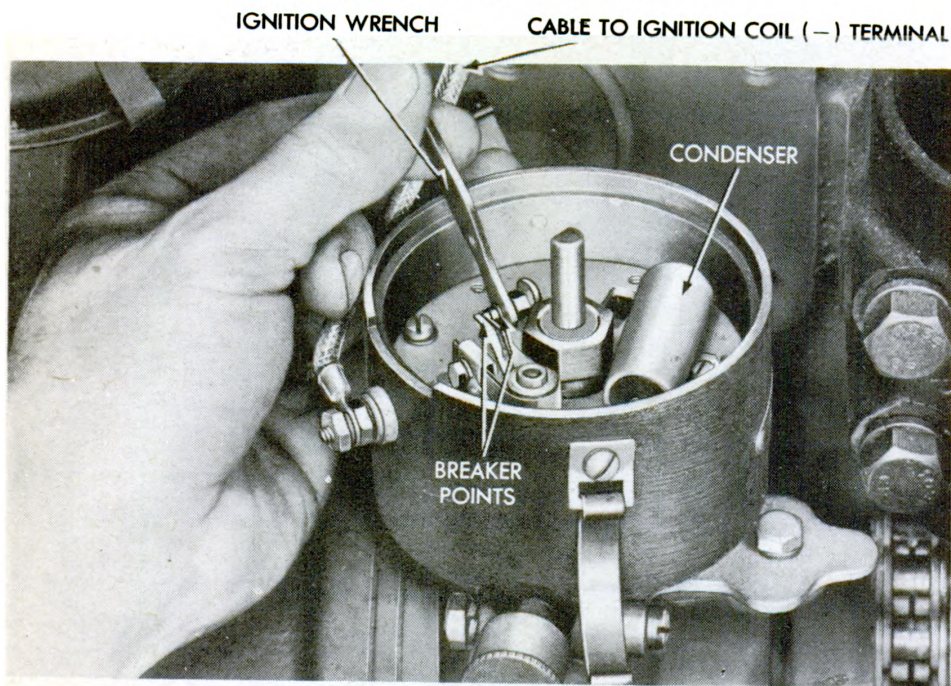

Figure 57 – Breaker Point Adjustment RA PD 78071
(3) **BREAKER POINTS.** If breaker points are in good condition, they will show a grayish color with no evidence of burning or pitting. Breaker points should be so alined as to make contact over the whole area of the contact surfaces. Breaker point gap should be 0.020 inch \pm 0.002 inch (fig. 56). If alinement is not correct, bend the stationary point bracket to secure proper alinement, and then adjust the gap (fig. 57), and tighten the lock nut. Breaker point pressure
(4) **CONDENSER.** The condenser (fig. 57) should be checked for broken wires, frayed insulation, and firm mounting. See that connections are clean and tight.